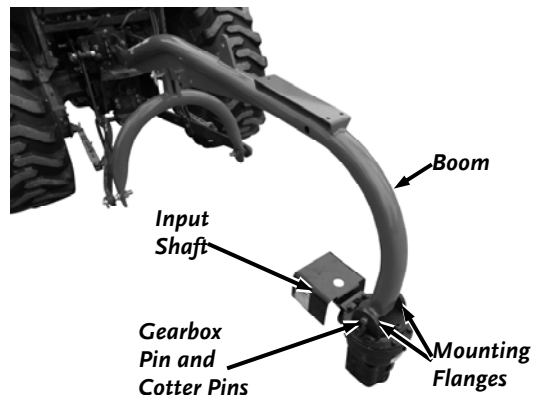

Figure 9
5. Position the Gearbox on the Ground beneath the Boom with the Input Shaft facing the Tractor (**Figure 9**). Lower the Lift Arms so that the end of the Boom aligns with the Mounting Flanges on the Gearbox.